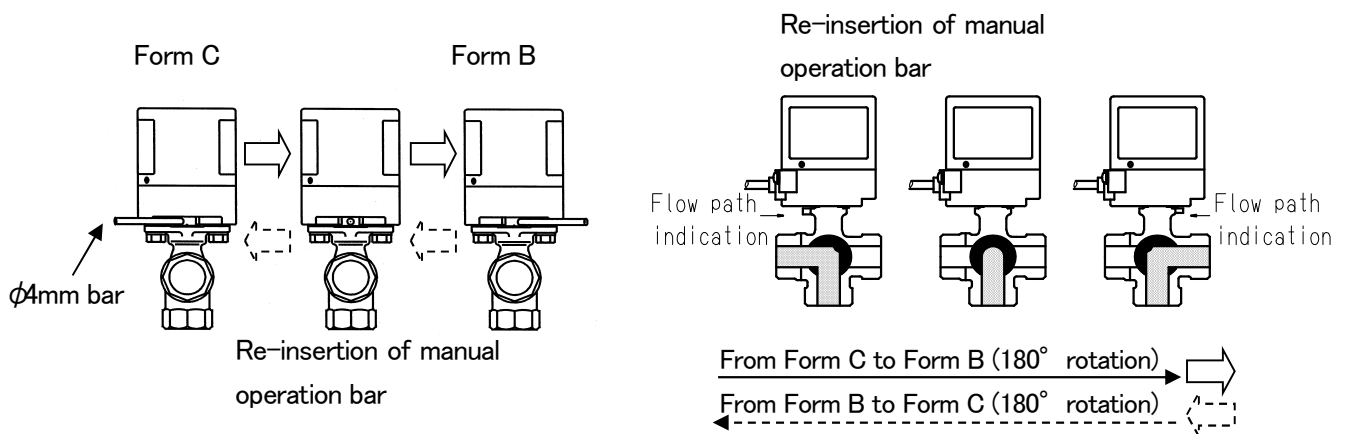

Fig.33 Change of flow paths for vertical 3-way ball valves
- ① Prepare a metal bar ($\phi 4\text{mm} \times 15\text{cm}$) for manual operation. It is optionally available at KITZ distributors and agents.
- ② For a vertical 3-way ball valve, 180° manual operation is needed to change flow paths from Form C to Form B. First, insert the manual operation bar into a hole provided on the bottom of an actuator housing, and rotate it by 90° , very slowly, taking some 20 seconds. Then, reinsert the operation bar into a hole again and rotate it by another 90° .
- ③ This completes changes of flow paths for vertical 3-way ball valves and changes of indication of flow paths (Fig.33).